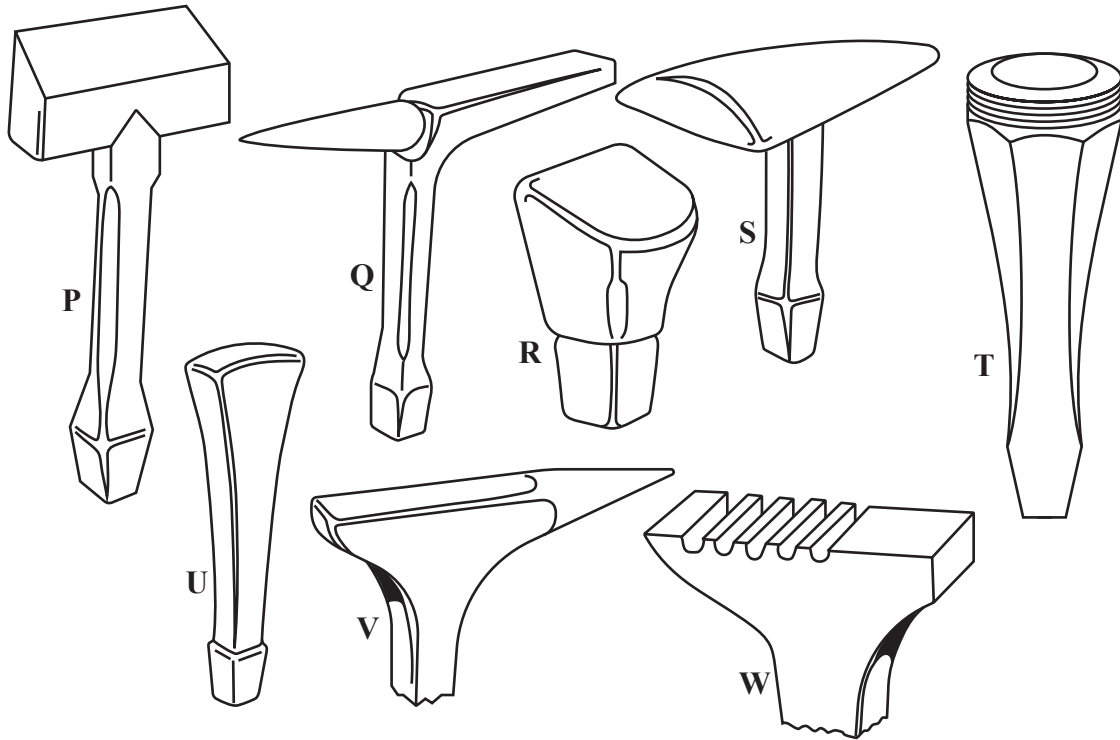

Fig.5
- 7 (a) (i) Identify any **three** Sheet metal stakes shown in Fig. 5